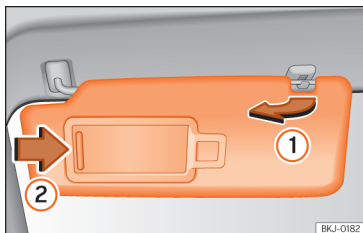

Fig. 108 Sun visor on the driver side.
- The sun visor can be pulled out of its mounting and turned towards the door »» Fig. 108 ①.